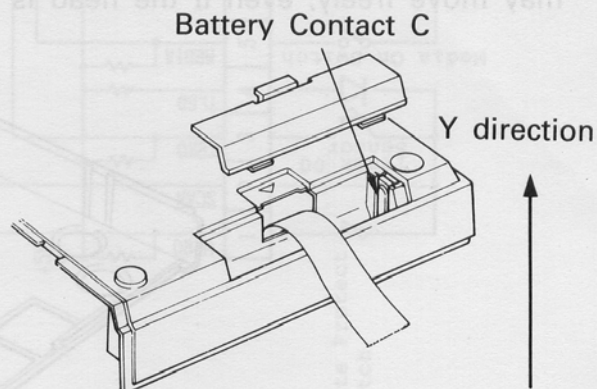

Fig. 3-11
4. Remove battery contact C by moving it in the Y direction from the back of the lower case (Fig. 3-11).